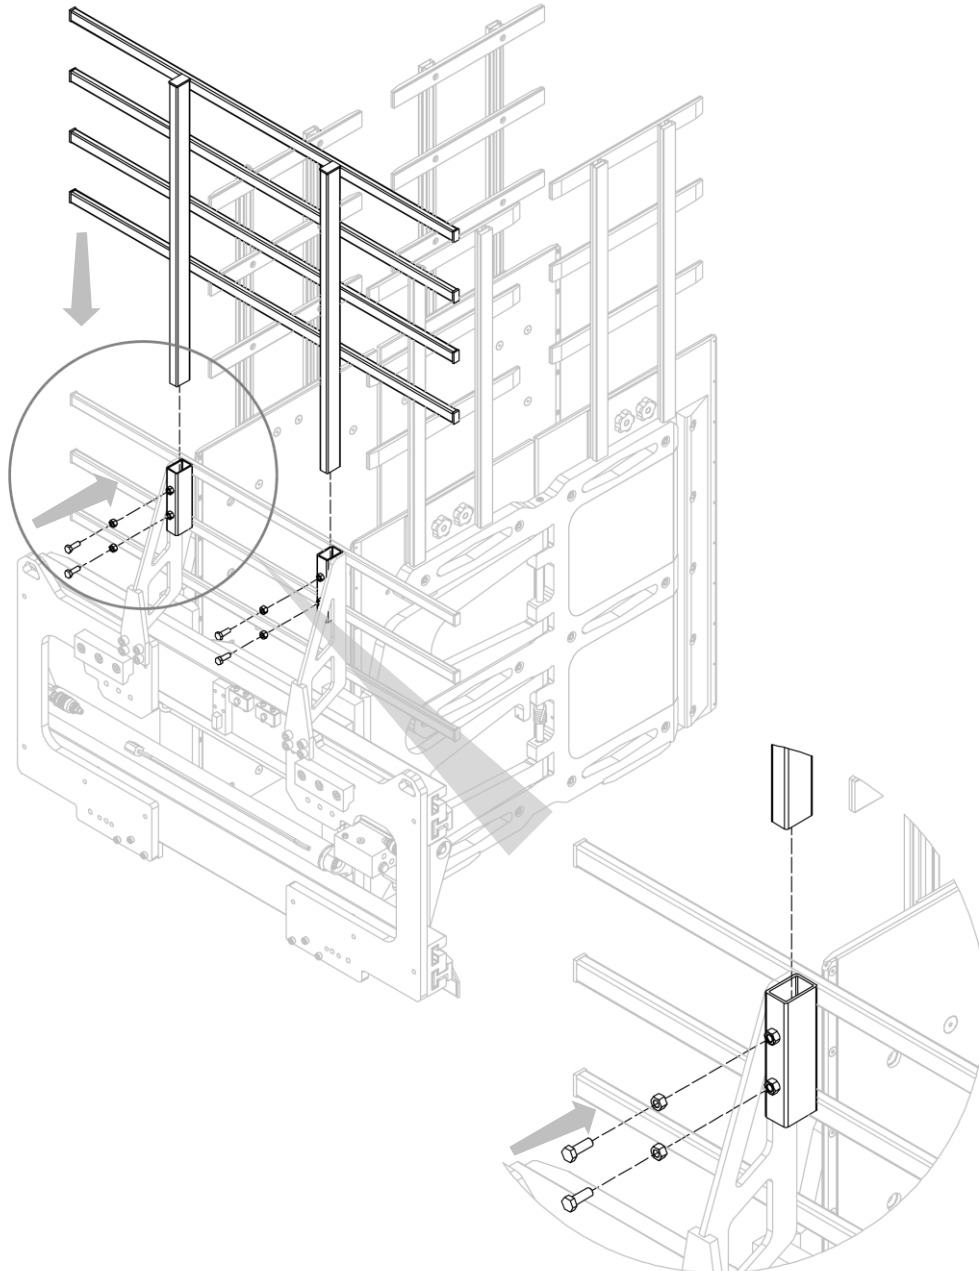

Figure 44
4. Fit the upper part of the load-retaining frame, using the screws and locknuts (see *Figure 44*).